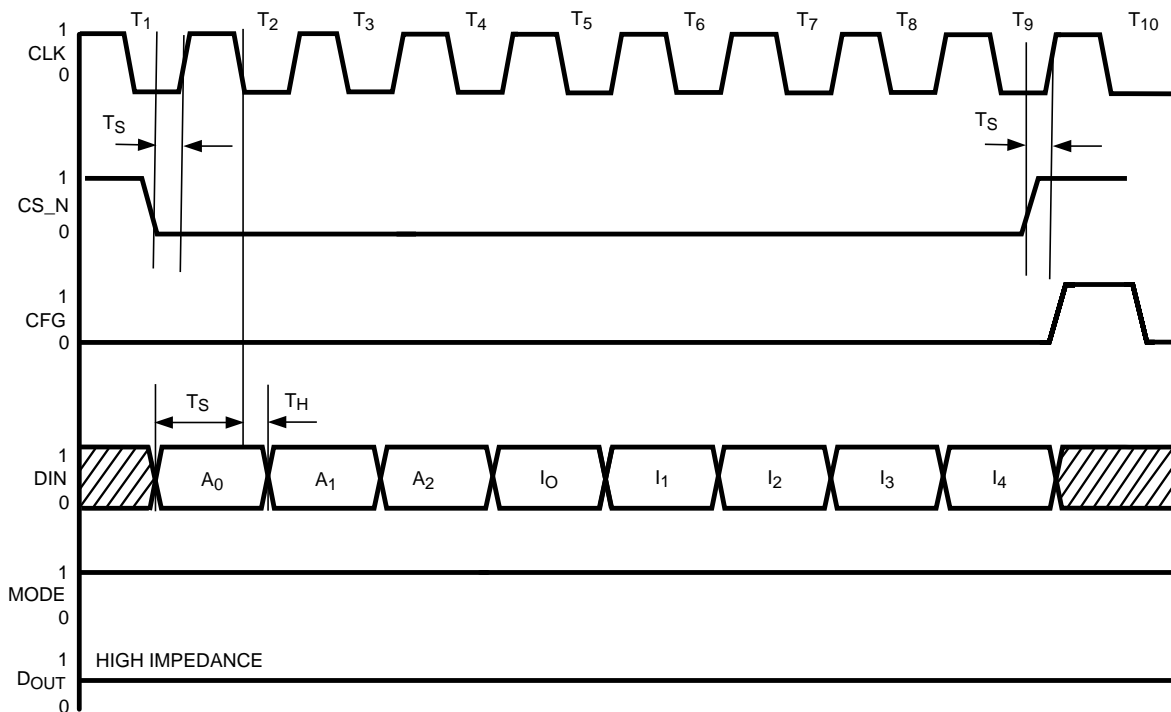

Figure 41. Timing Diagram for Addressed Mode
Also illustrated is the timing relationships for the digital pins in Figure 41. It is important to note that all the pin timing relationships are important, not just the data and clock pins. One example is that the Chip Select pin (CS) must transition low before the first rising edge of the clock signal. This allows the internal timing circuits to synchronize to allow data to be accepted on the next falling edge. After the final data bit has been clocked in, the chip select pin must go high, then the clock signal must make at least one more low to high transition. As shown in Figure 41, the chip select pin state should always occur while the clock signal is low. The configure (CFG) pin timing is not so critical, but it does need to be kept low until all data has been shifted into the crosspoint registers.